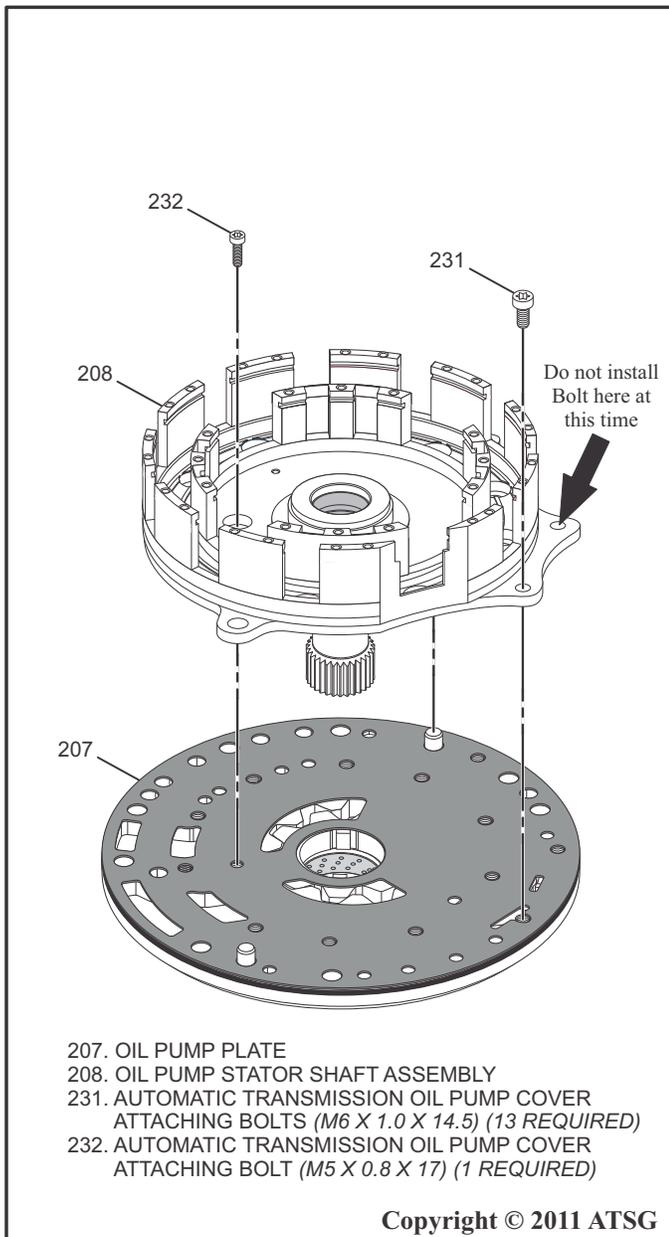

Figure 104
31. Align the Fluid Pump Stator Shaft Assembly with the bolt holes shown through the Pump Plate and assemble the Fluid Pump Stator Shaft Assembly on to the Dowel Pins in the Pump Body as shown in Figure 104.
32. Install and hand tighten 12 of the 13 Oil Pump Cover Attaching Bolts temporarily omitting the one indicated by the arrow as shown in Figure 104.